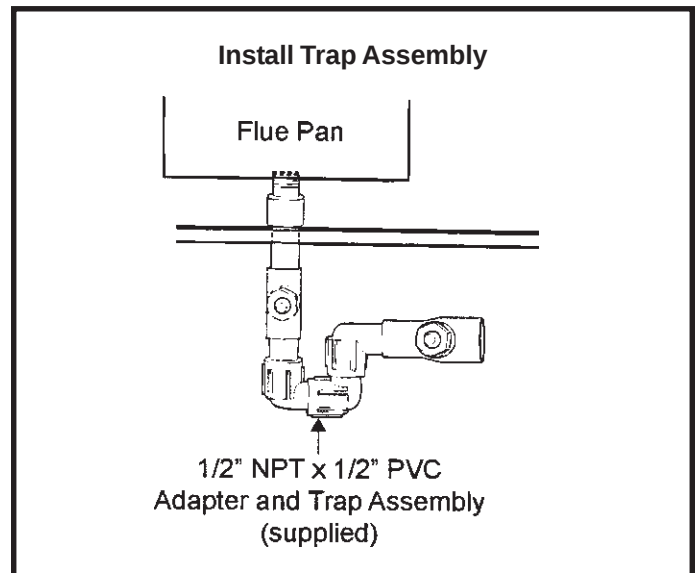

Figure 24
3. Insert trap assembly (supplied) into flue pan (see Figure 24).